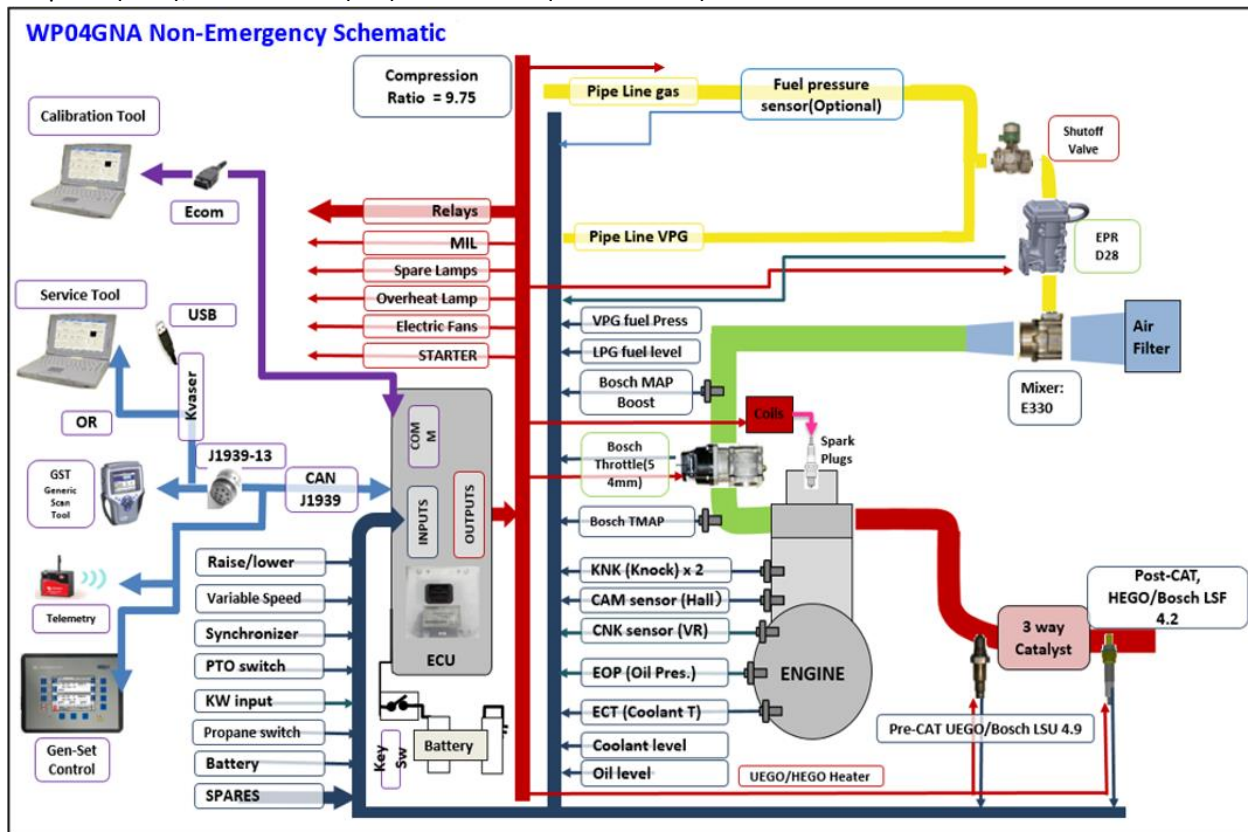

Figure 1 WP4GNA Non-Emergency Schematic
The 4G engine control module is the backbone of the EControls control system. Proven in a multitude of applications around the world, the 4G based engine control system delivers reliable operation and optimal engine operation no matter the environment. The 4G engine control system for highly regulated emission countries enables operation at the stoichiometric air / fuel ratio with Rich Burn and a three-way catalyst (TWC). Stoichiometric engine operation ensures that there is precise amount of air delivered to completely burn all the fuel. The stoichiometric Air Fuel Ratio (AFR) for natural gas is 17.7:1 and for propane is 15.5:1. Figure 1 shows the required 4G engine control system configurations for Propane (VPG), Natural Gas (NG) and Bi-Fuel (VPG and NG) with the TWC.